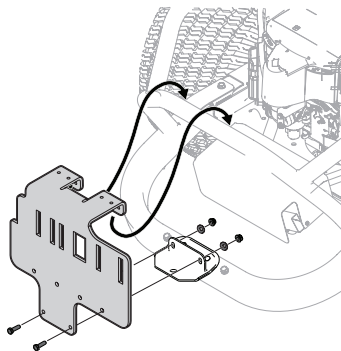

Figure 5
4. Hang adapter bracket assembly onto upper frame tube and connect to hitch bracket adapter (789-02298) with two screws (710-0376), two cup washers (736-0242), and two flange lock nuts (710-04063). See Figure 5.